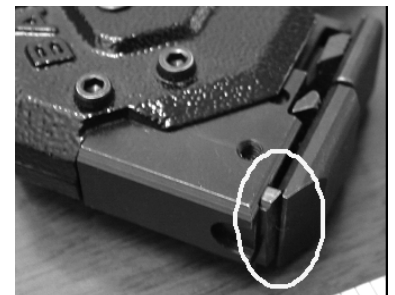

Figure 4
5. The knife is now in the downward position - Figure 4.